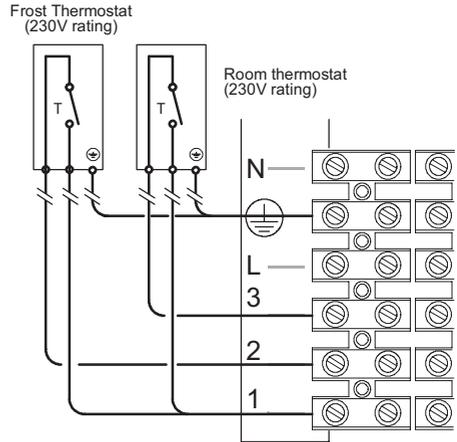
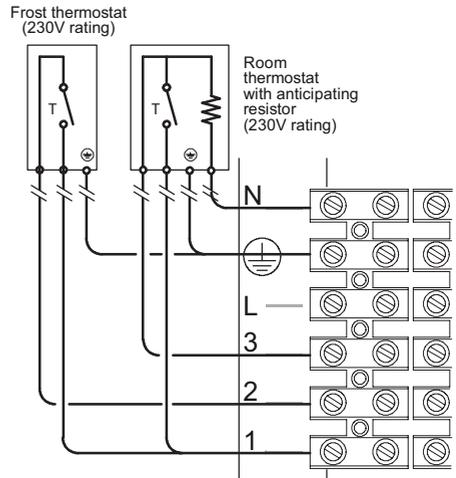

Fig. 6.22
Fig. 6.23
- Connect the frost thermostat between terminals 1 and 2 as shown in Fig. 6.22 or Fig. 6.23.